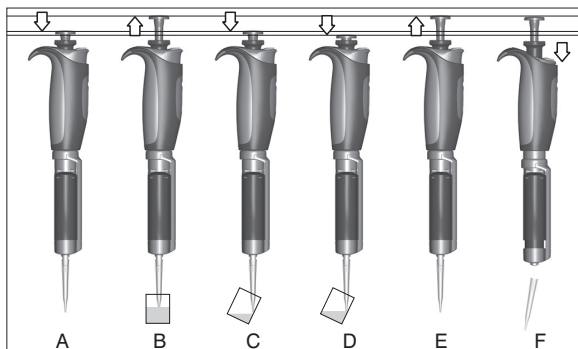

Fig. 4
- Wait for about 1 second before withdrawing the tips from the aspirated sample, fig. 4.